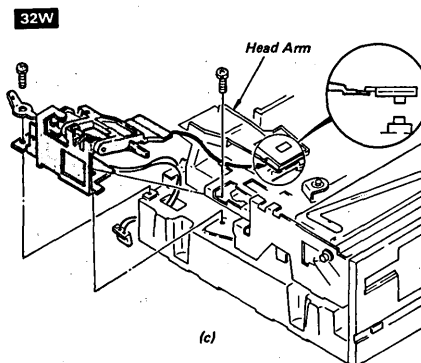

Fig. 4-8 Head Load Ass'y Replacement
- Remove the two screws (PS2.6 x 6) which fasten the head load ass'y to the chassis so that an excessive force is not applied to the head arm, and then remove the head load ass'y. (Refer to Fig. 4-8 (a) (b))
- Pass the harness of the head load ass'y through the opening of the chassis. (Refer to Fig. 4-8 (a) (b))
- Fasten both the head load ass'y and lug terminal to the chassis with the two screws (PS2.6 x 6). (Refer to Fig. 4-8 (a) (b))
- Bend one tip of the lug terminal by 90° ±10°. (Refer to Fig. 4-8 (c))